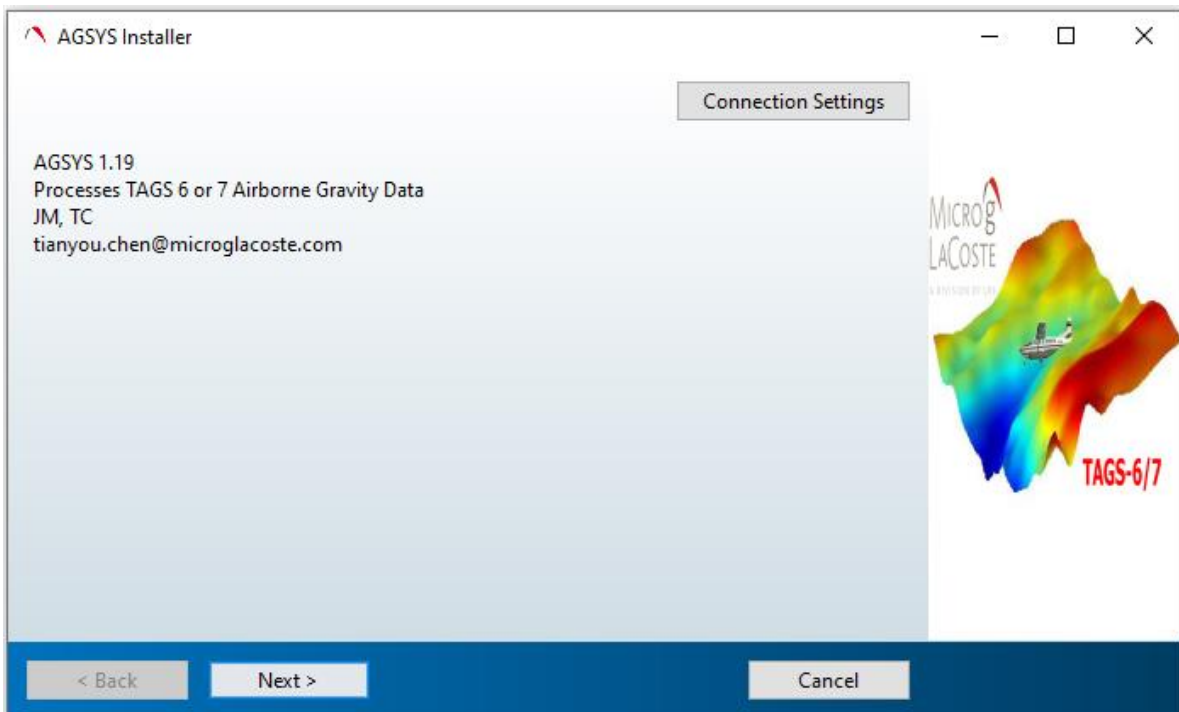

Figure 2-1 AGSYS Installer Dialog
- 4. When the **AGSYS Installer** dialog (Figure 2-1) appears: